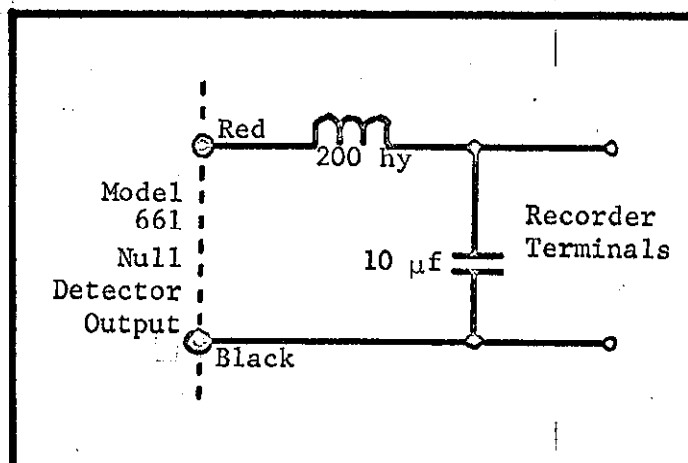

FIGURE 3. Recorder Filter. A filter between the Model 661 and the recorder may be necessary when using the 0.1-millivolt null detector range.
e. If there is a substantial recorder jitter on the 0.1-millivolt null range, place a filter between the Model 661 and the recorder. Refer to Figure 3 for this connection. Note the filter must also be insulated from ground.